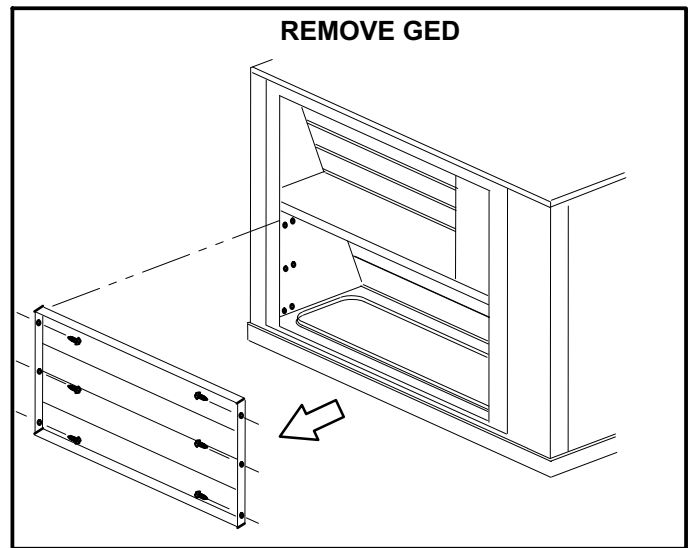

FIGURE 5
- 1- Remove the GED from the economizer. See figure 5.